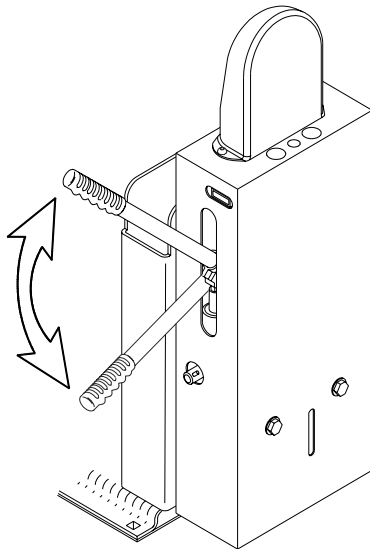

FIGURE 2-14: RAISE PLATFORM
- b. Refer to **Figure 2-14**. Insert pump handle into pump handle socket. Operate pump to begin raising and folding platform.